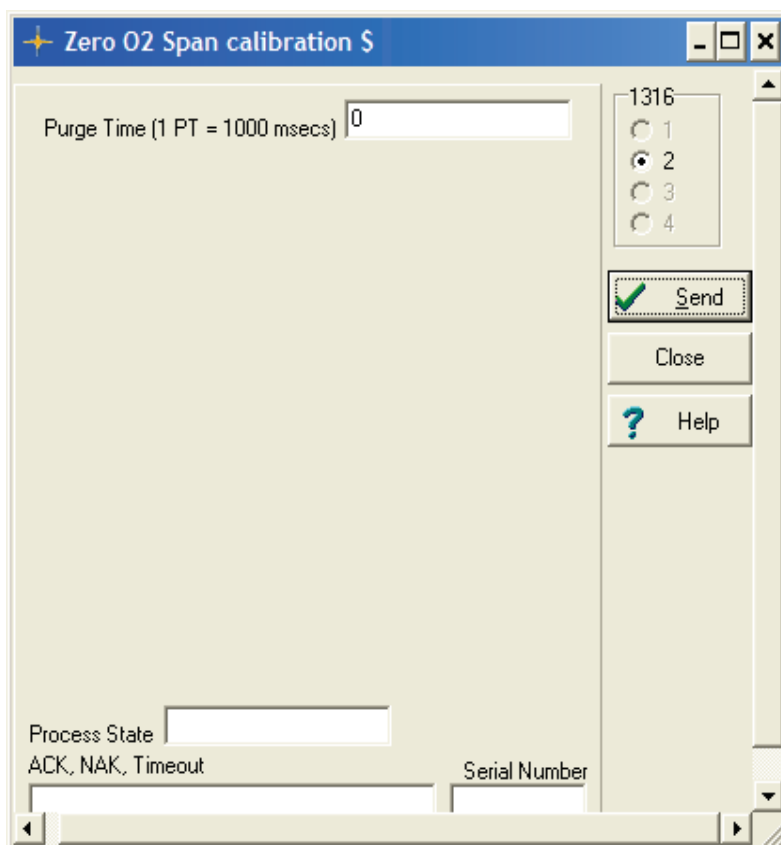

Figure 4.2. The Zero O2 span calibration window to select Purge time during a calibration.
The CO2, CO, Ethanol, and NO channels are zero calibrated and the O2 channel is span calibrated. Using the selected Purge Time (PT) (see figure 4.2 ).